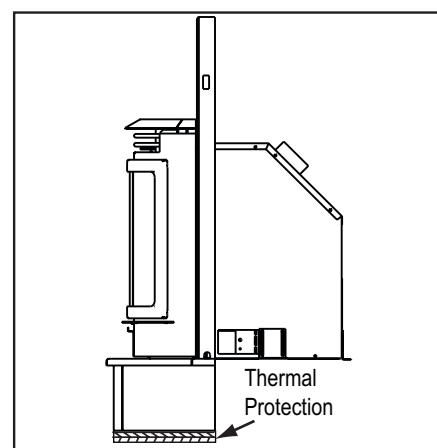

Figure 24.4
10. Thermal protection of 1-1/2 inches (38mm), "k" value of 0.49 and R value of 3.06 under the zero-clearance trim support. **Figure 24.4.**